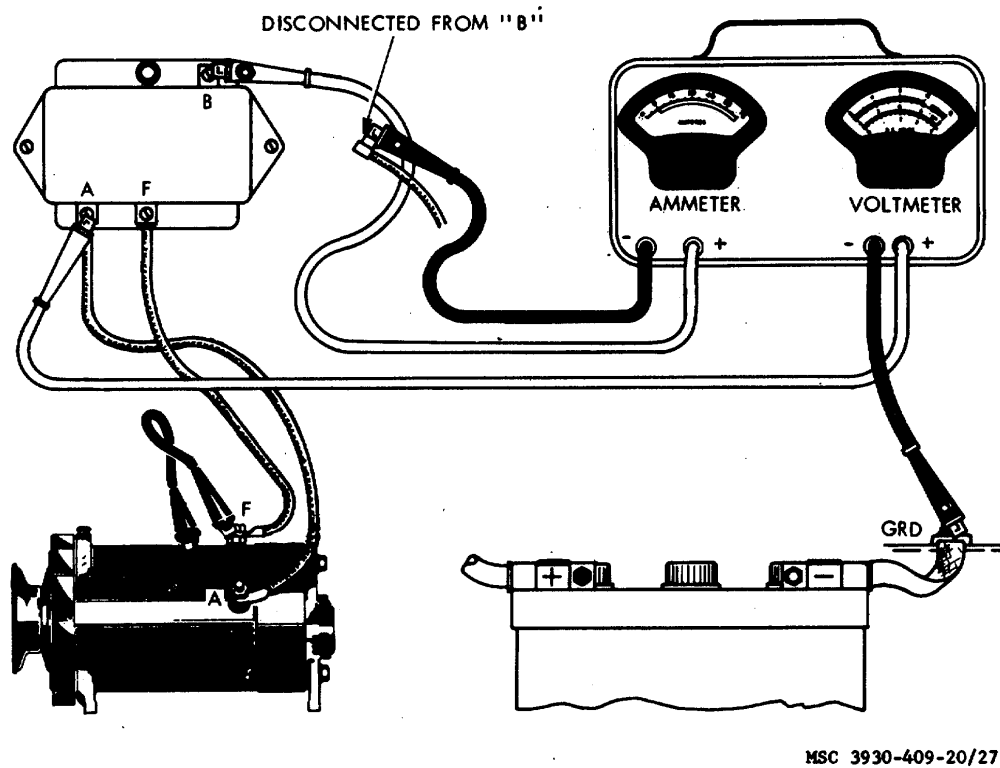

Figure 3-21. Voltage regulator cutout relay test setup.
1. Connect test equipment as illustrated in figure 3-21.